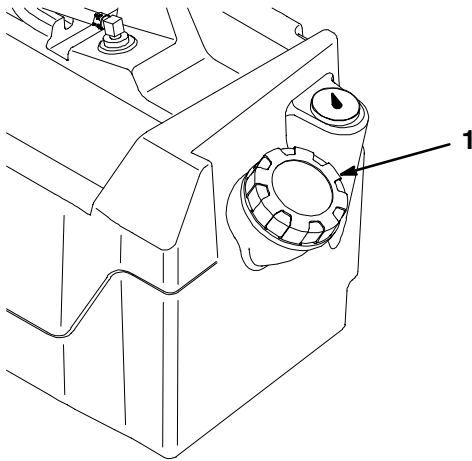

Figure 3
2. Clean area around fuel tank cap (Fig. 3).